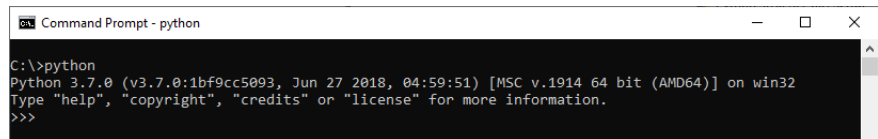

Figure 18 Python installation verification on command prompt window
- b On the root directory, type `python` and press <Enter>. See Figure 18.
- 6 On the command prompt window shown in Figure 18, you may optionally enter the following commands to install the 'NumPy', 'SciPy' and 'Matplotlib' libraries: